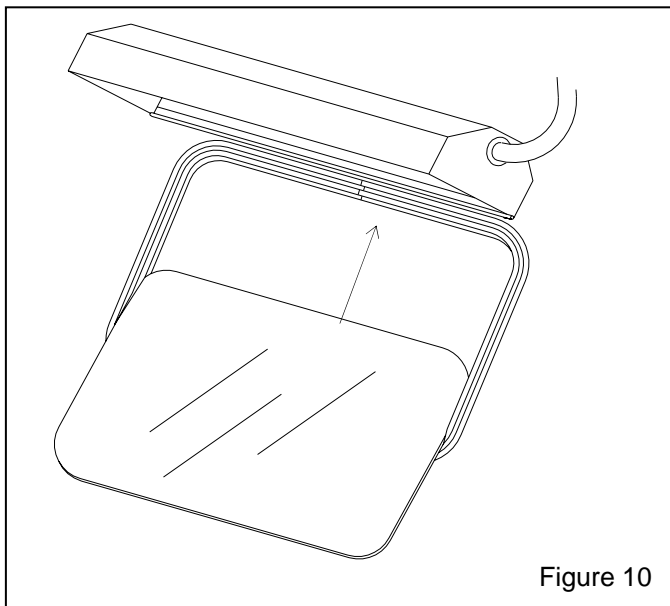

Figure 10
6.3.6. Spray silicone lubricant into the window channel (wide channel) on the molding, and slide the window into the channel, as shown in Figure 10. Place an arm into a glove to support the top edge of the bottom side of the window with one hand, while guiding the top edge into the molding with the other.